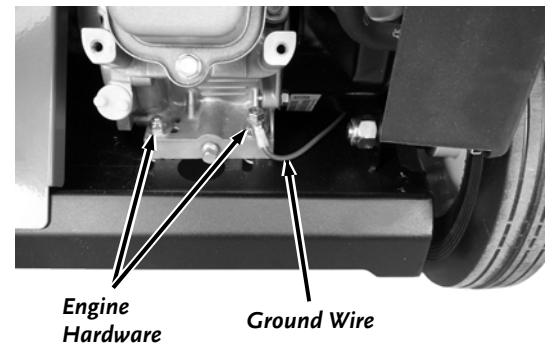

Figure 20
4. Remove the four Bolts, five Flat Washers and four Locknuts that secure the Engine to the Frame using two 1/2" Wrenches (**Figure 20**). For Electric Start models the Ground Bolt has two Nuts and two Lock Washers instead of a Locknut.